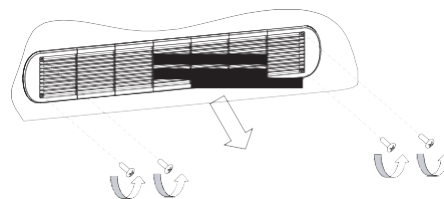

Fig.5-10
- 2) Loosen the hanger of the putdown side refers to Fig.5-10